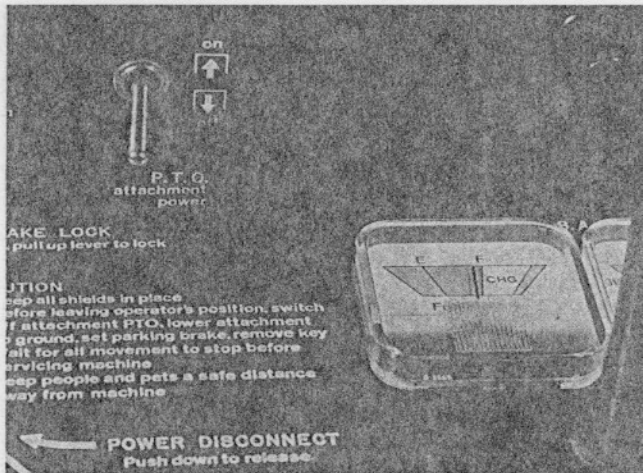

FIG. 12. Fuel Level Gauge
FUEL LEVEL GAUGE (Fig. 12)
On the fuel level gauge, the green zone between the (E) Empty and (F) Full represents range of the power pack. Readings in this zone are fractional portions of full range remaining. (See Fig. 12).